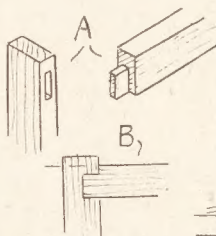

Fig. 2—Corner joints
The edges of the open end of the box are covered with red plush by lightly tacking and gluing into place, Fig. 2 (F). This forms an efficient light seal during the time that the printing-frame is held